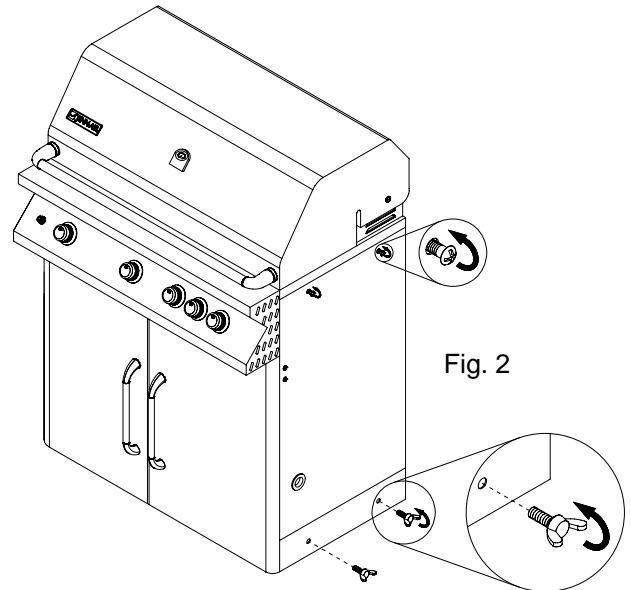

Fig. 2
Step 2: Loosen the side panel top two screws a quarter of the way out. Remove the two screws from the bottom of the side panel. (Fig. 2)
2. Hold the Plug and insert into the socket (fig.2), release sleeve.